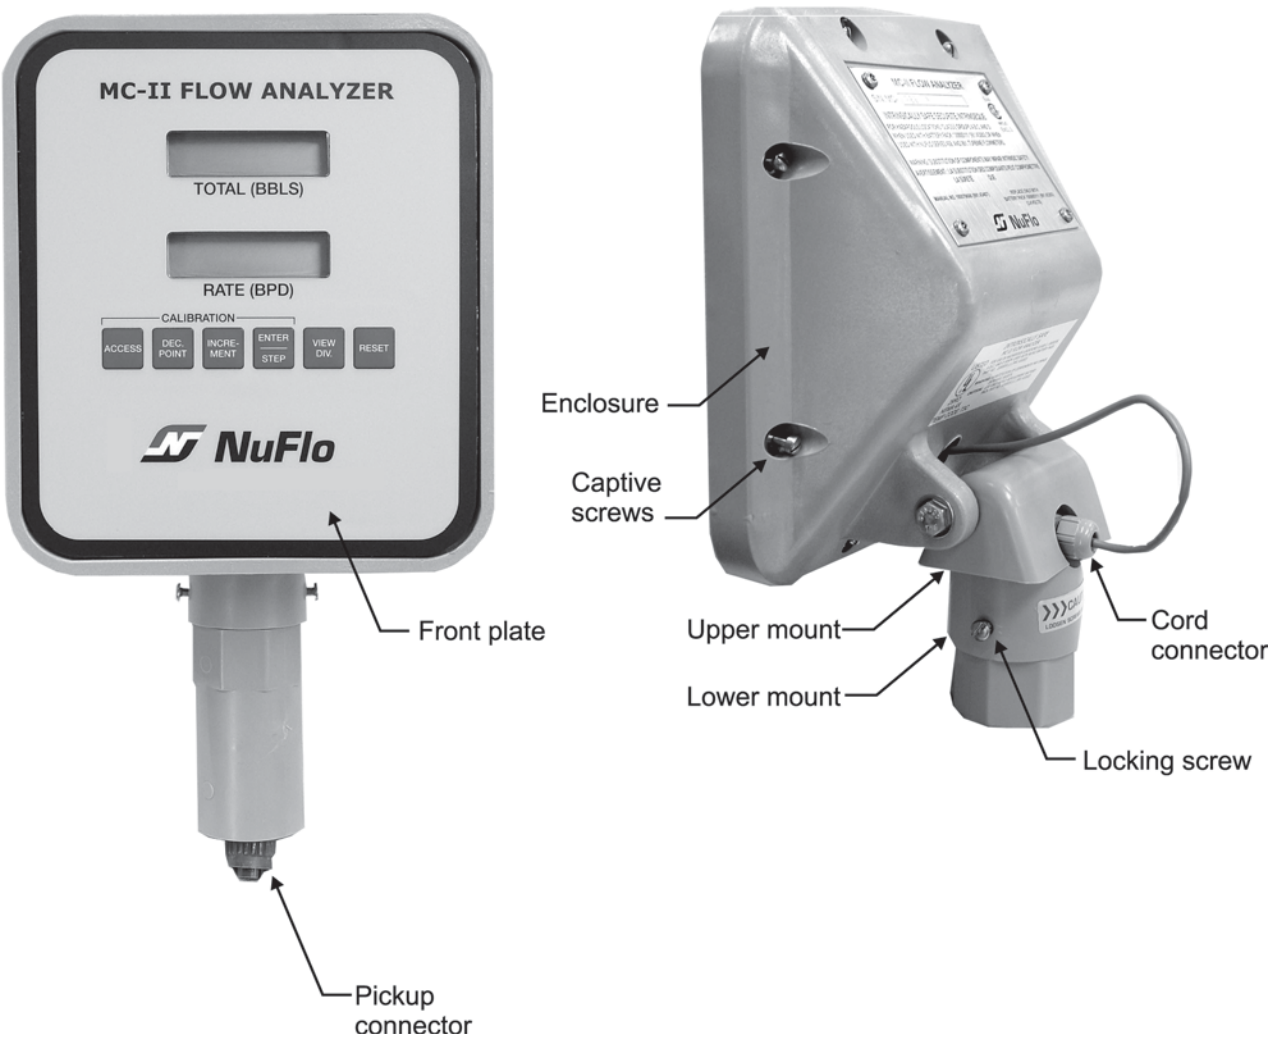

Figure 1—Nomenclature (exterior)
2. Loosen the locking screws that secure the base MC-II mount (Figure 1, page 2).